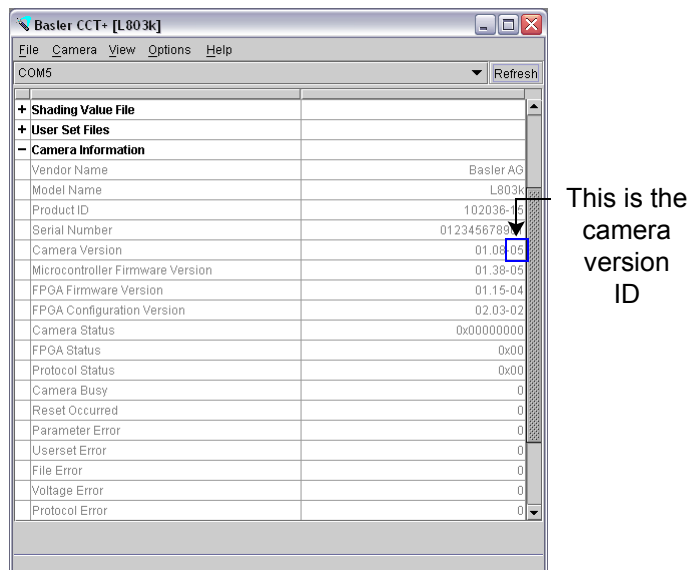

Figure 1-1: CCT+ Window
3. Find the parameter called “Camera Version.” As shown in Figure 1-1, the last two numbers of this parameter are the camera version ID number.